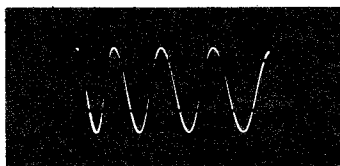

Figure 1
- () Set the SYNC. SELECTOR switch to the +INT. position, the HOR. GAIN control to 30, the VERT. INPUT switch to X10, and the VERT. GAIN control to 100. Now set the HOR./FREQ. selector to the dot between 10 and 100, and adjust the FREQ. VERNIER to obtain a pattern consisting of four complete sine waves similar to that shown in Figure 1. This check indicates that the sweep generator is operating normally at a frequency of $60/4$, or 15 cycles per second. Reduce the HOR. GAIN setting if necessary. The breaks in the trace are caused by the fields of the power transformer. This will not be present with external signals.